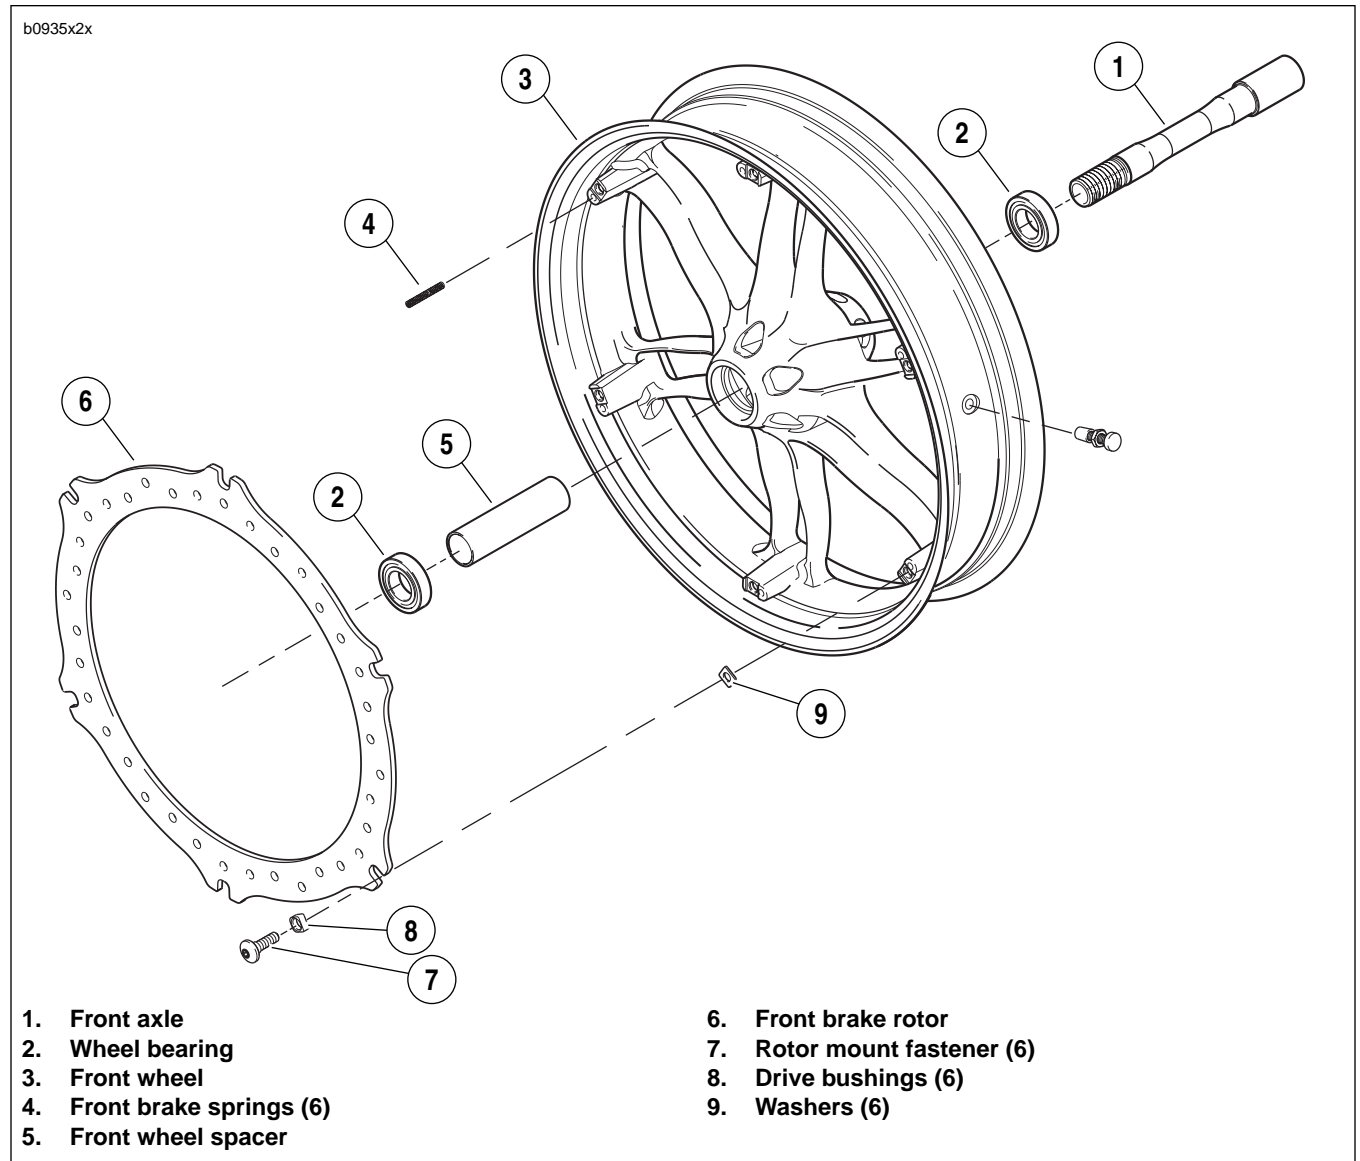

Figure 2-18. Front Wheel Assembly
1. See Figure 2-18. Remove and discard rotor mounting fasteners (7).
2. Remove and inspect brake rotor (6) for wear and warping. See 1.7 BRAKE SYSTEM MAINTENANCE and 2.12 FRONT BRAKE CALIPER.
3. Remove drive bushings (8) and discard.
4. Remove washers (9) and discard.
5. Remove rotor spring (4) and discard.
1. See Figure 2-18. Install spacer (5).
2. Install **new** wheel bearings (2) into hub using suitable driver. Press on outer race only.
1. See Figure 2-18. Install **new** spring (4).
2. Install **new** washers (9).
3. Install **new** drive bushings (8) into rotor.